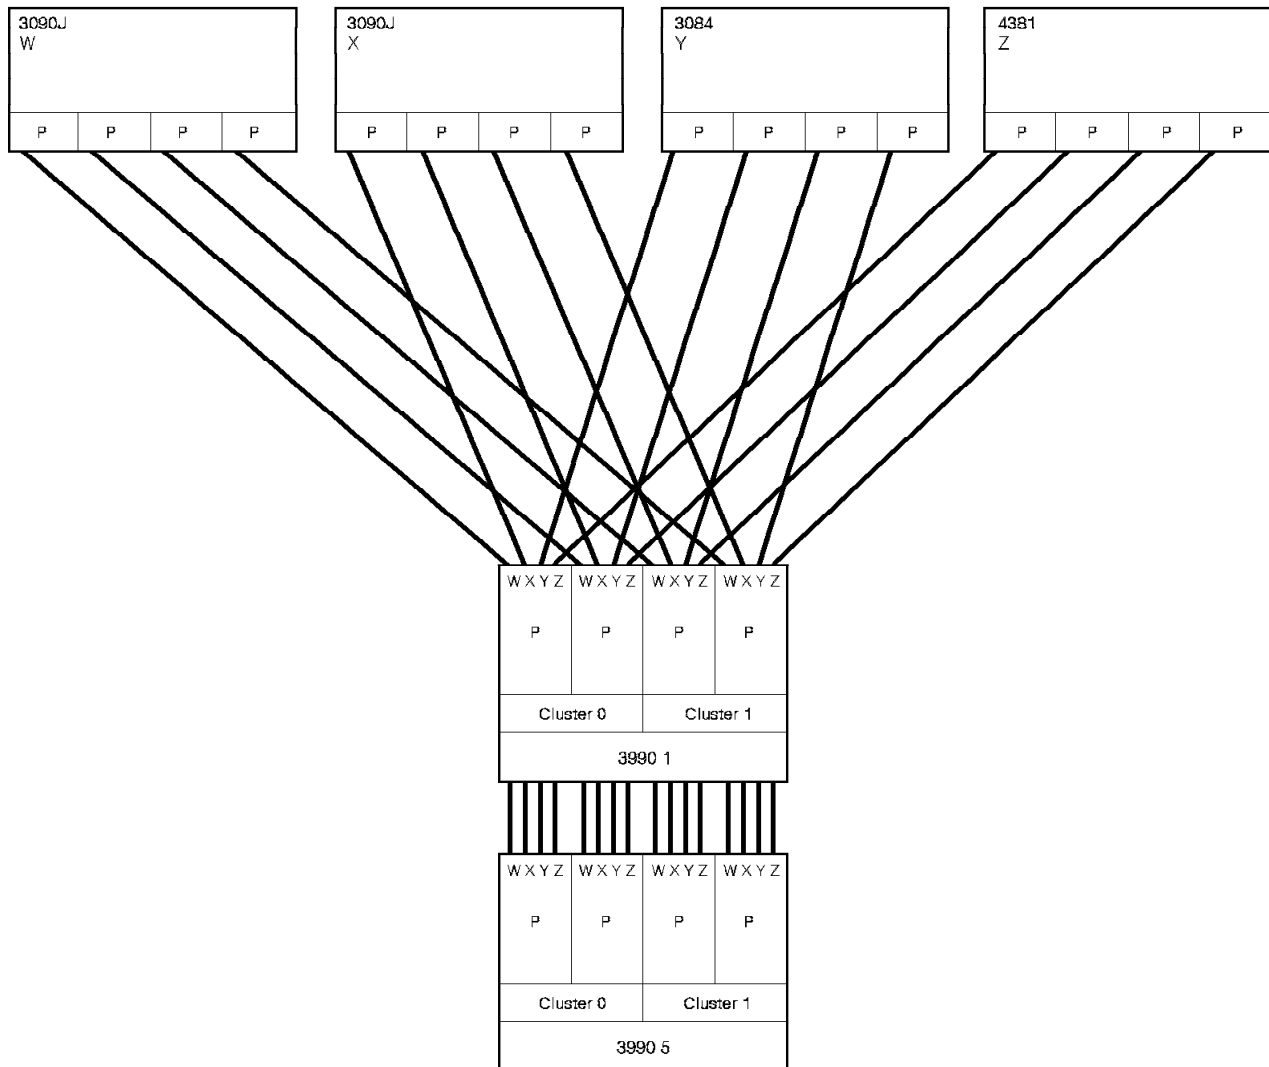

Figure 25. Daisy-Chained 3990 Configuration. 3990s 1 and 5 are daisy-chained (physically cabled) together.
**Considerations for Daisy-Chained (or Multi-Dropped) Control Units:** Many installations have more than one storage control attached to a channel. This is called a daisy-chained configuration. This must be taken into consideration when only one of the storage controls on a channel is being upgraded with ESCON adapters. Figure 25 shows a daisy-chain configuration.